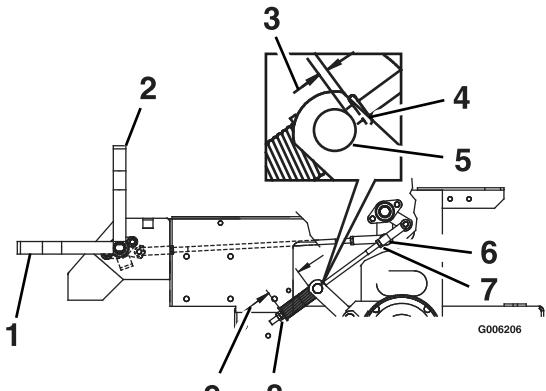

Figure 15
2. Measure the length of the spring. Measurement should be $2\frac{3}{4}$ inches (7.0 cm) between washers. (Figure 15).
4. If adjustment is necessary, loosen the nut directly below the yoke. Turn the bottom nut (below washer) until the correct measurement is obtained see Figure 15 turn nut clockwise to lengthen the gap (screws rod into yoke) and turn counterclockwise to shorten the gap (screws rod out of yoke). Tighten nut against yoke and check opposite side of unit, repeat if necessary. Lengthen (or shorten) the brake rod until the correct gap can be achieved by following steps 2 and 3.